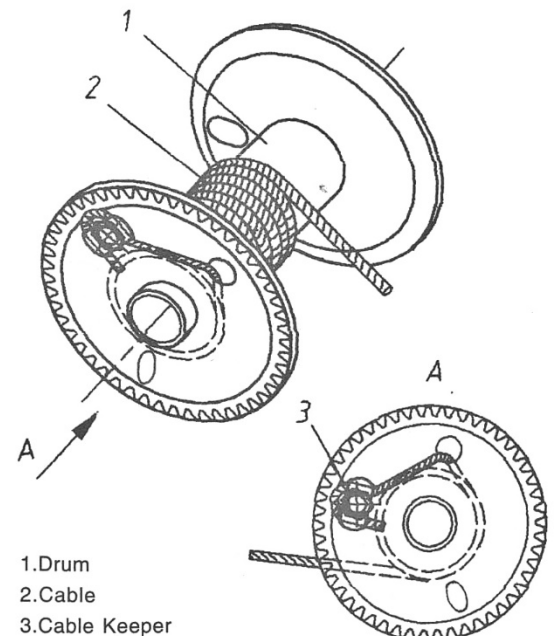

Fig. 2: H-600 Winch Cable Attachment
3. Thread cable through one hole on the drum plate then wrap the drum, clamp the cable with cable keeper (see Fig. 2), making sure that the bolt head of cable keeper should be at the inside of winch drum. In case of hook application, attach the other end of cable to suitable hook having safety catch, clamp the cable with suitable clip. The breaking strength of the hook must be at least 1.5 times of the breaking strength of the cable.